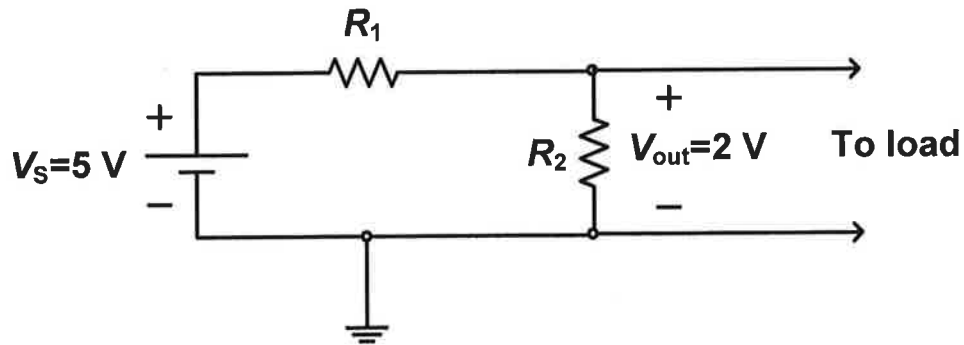

Figure 2. Voltage divider circuit.
**2(a)–Pre-lab Assignment:** Design a voltage divider circuit similar to the one shown in Fig. 2 to convert a fixed power supply voltage of 5 V to a voltage equal to 2 V. For the circuit, all you have available are four 1 k $\Omega$  resistors. Show the circuit you designed on paper. (Note: More than one circuit design is possible.)